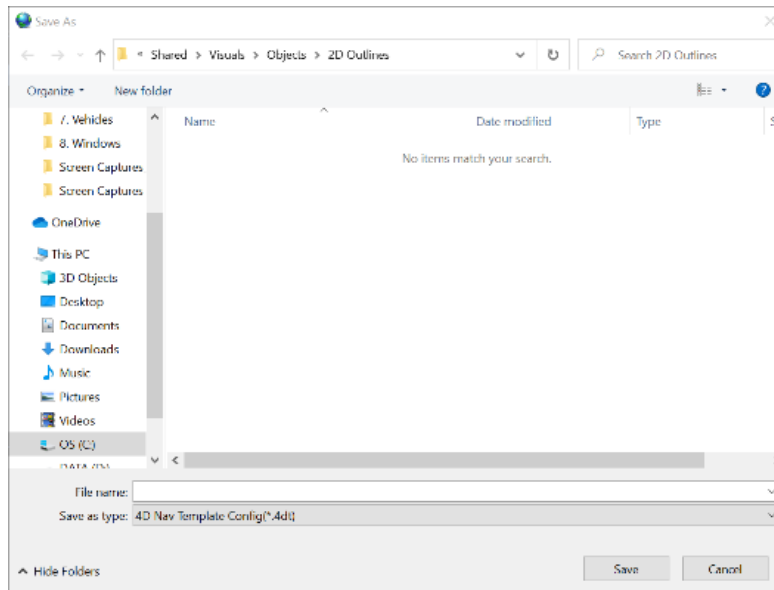

FIGURE 8-17 WINDOWS - TEXT TEMPLATE EXPORT DEFAULT FOLDER
4. Navigate to the destination folder. See Figure 8-17 for default folder.